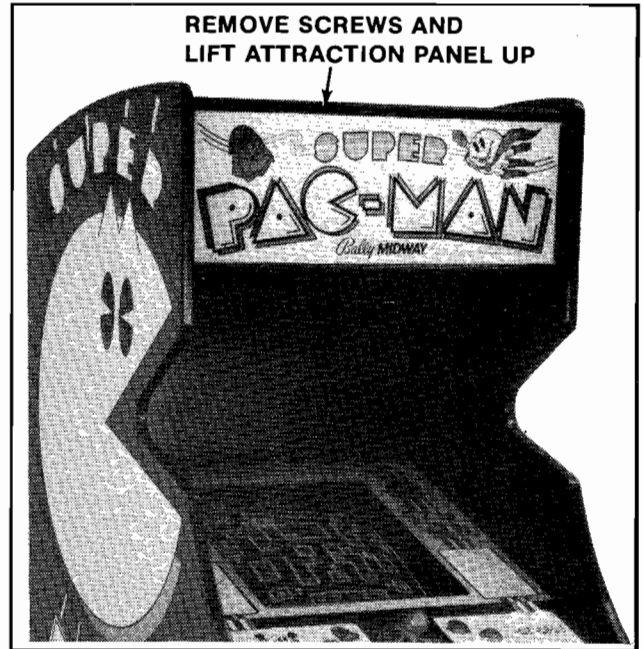

Figure 4-12 Opening the Attraction Panel — Upright
1. **UPRIGHT MODEL:** See Figure 4-12.
Remove the screws which secure the top bracket in place. (They are on its top side.) See Figure 4-12.